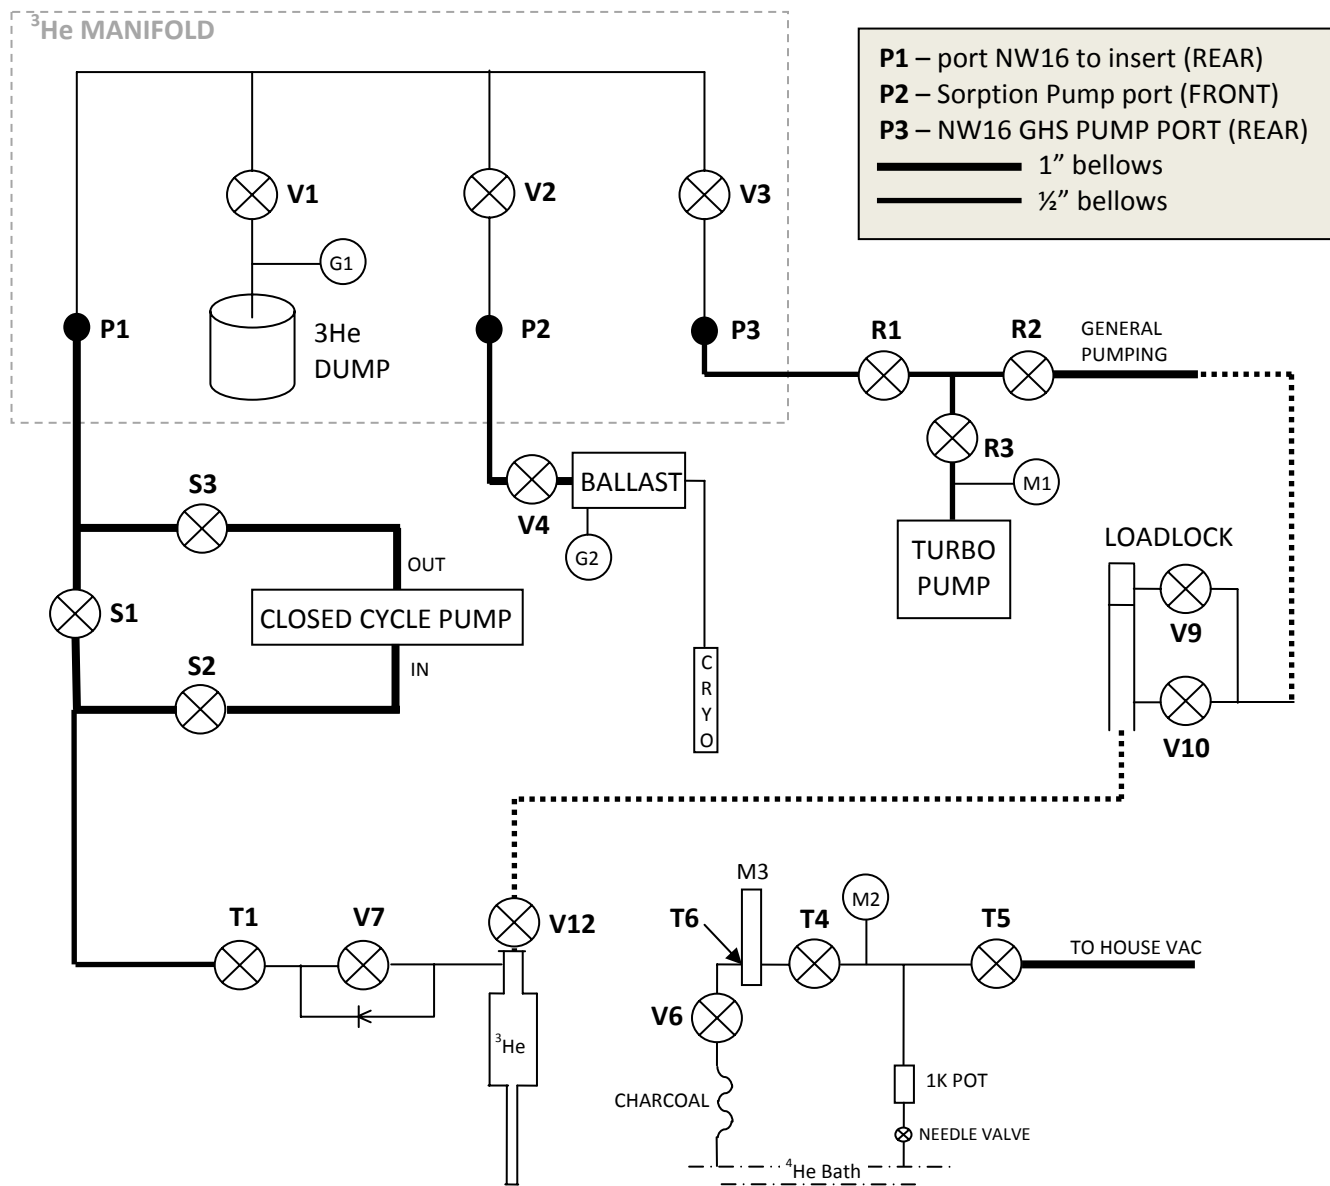

Fig. 2 ³He Refrigerator System Interconnect. Dotted lines are connected only when the probe is loaded.
Hook up the ^3He storage manifold cart and turbo pump to the system as in Fig. 2. Leave the probe and the loadlock out.
1. Hook up the plumbing system (step IV, Fig. 2). Make sure valves T1, V7, S1, S2, S3, R1, R2, R3, V1, V2, and V3 are closed.